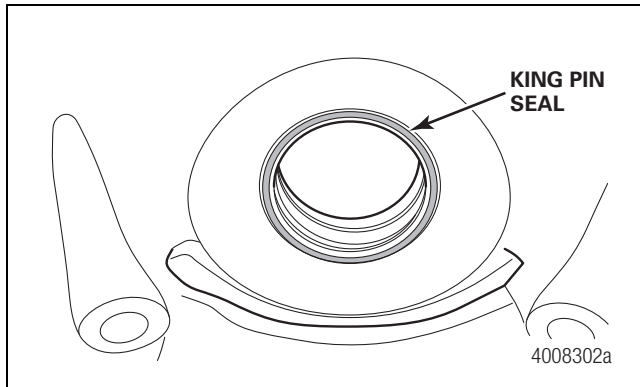

Figure 9.4
5. Install the upper and lower king pin seals on the inner side of both bushings. Install the seals with the flat edge facing in and the seal lip facing out. Figure 9.4.